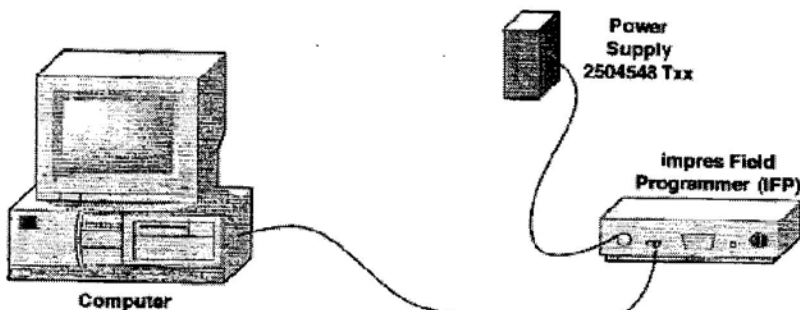

Figure 3: System Configuration – iFP + Power Supply + PC + USB Cable
2. Connect the USB between the PC and iFP (Figure 3.)